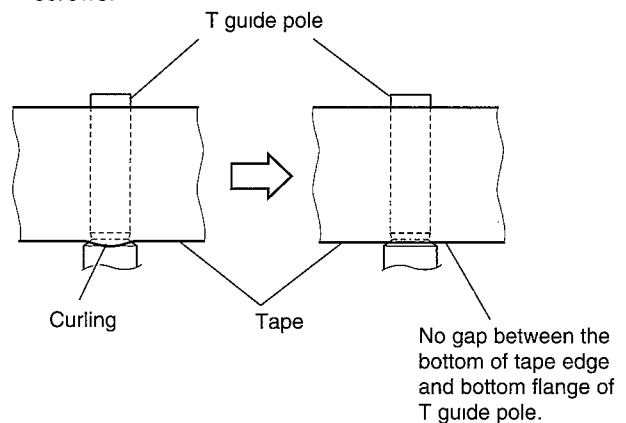

Fig. 3-4b
- 2) Make sure that there is no gap between the bottom edge of tape and the bottom flange of T guide pole (see Fig. 3-4b).
- 2) Turn the A/C head tilt adjustment screw clockwise so that the tape curls around the bottom flange of T guide pole (see Fig. 3-4b).
- 3) Slowly (taking at least 2 seconds) turn the tilt adjustment screw counterclockwise, to remove any curling of tape (do not turn it abruptly). Make sure that there is no gap between the bottom edge of tape and the bottom flange of T guide pole. (see Fig.3-4b)